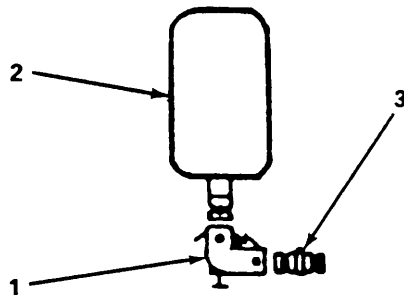

Figure 4-6. Elbow Coupler Valve, Removal/Installation.
b. Replace. (figure 4-6)
(1) Removal.